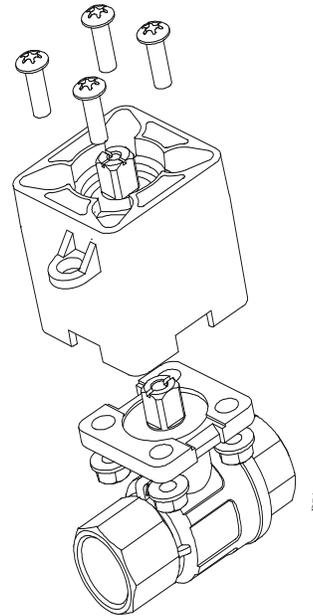

Figure 18: Installing the Barrier
3. Mount the thermal barrier onto the valve using the four included M5x16 mm machine screws and four M5 flange nuts. Tighten the screws to a recommended torque of 21 to 25 lb-in. (2.4 to 2.8 N·m). (Figure 18).